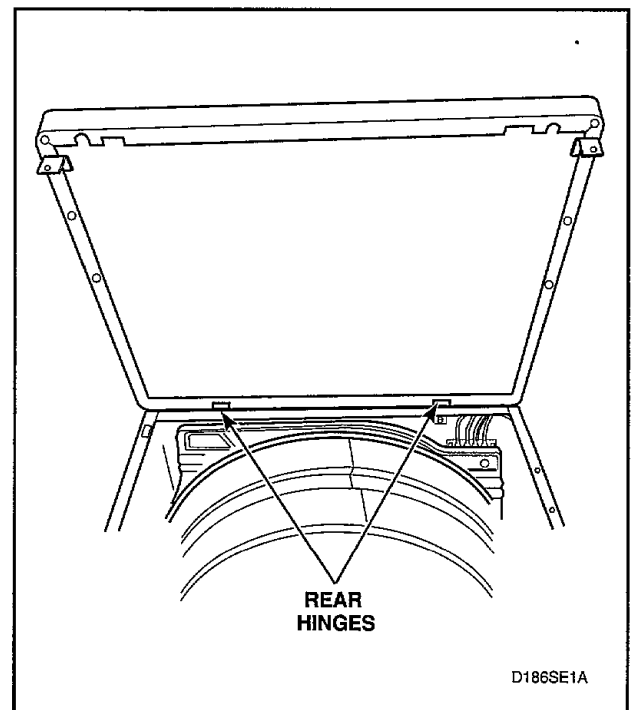

Figure 13
n. Lift cabinet top to a vertical position by hinging it on the rear hinges, *Figure 13*.
- o. Carefully withdraw the wire harness through hole in cabinet top and lift the entire cabinet top assembly off the rear hinges, *Figure 13*.
- m. Lift cabinet top to a vertical position by hinging it on the rear hinges, *Figure 13*.
- n. Carefully withdraw wire harness through hole in cabinet top and lift the entire cabinet top assembly off the rear hinges, *Figure 13*.
- Lift cabinet top to a vertical position by hinging it on the rear hinges, *Figure 13*.
- Carefully withdraw wire harness through hole in cabinet top and lift the top off the rear hinges with timer case attached, *Figure 13*.
- Carefully withdraw the wire harness through hole in cabinet top and lift the top off the rear hinges with meter case attached, *Figure 13*.